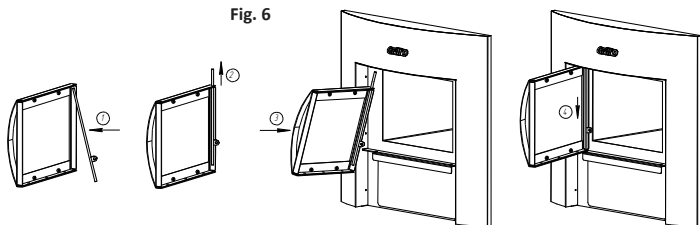

Fig. 6
It is necessary to perform the following actions to install the door (refer to Figure 6):
Note: Insert the pin at an angle (item 1 in Figure 6).
Note: Mount the door with the pin to the seat at an angle. (Item 3 in Figure 6).